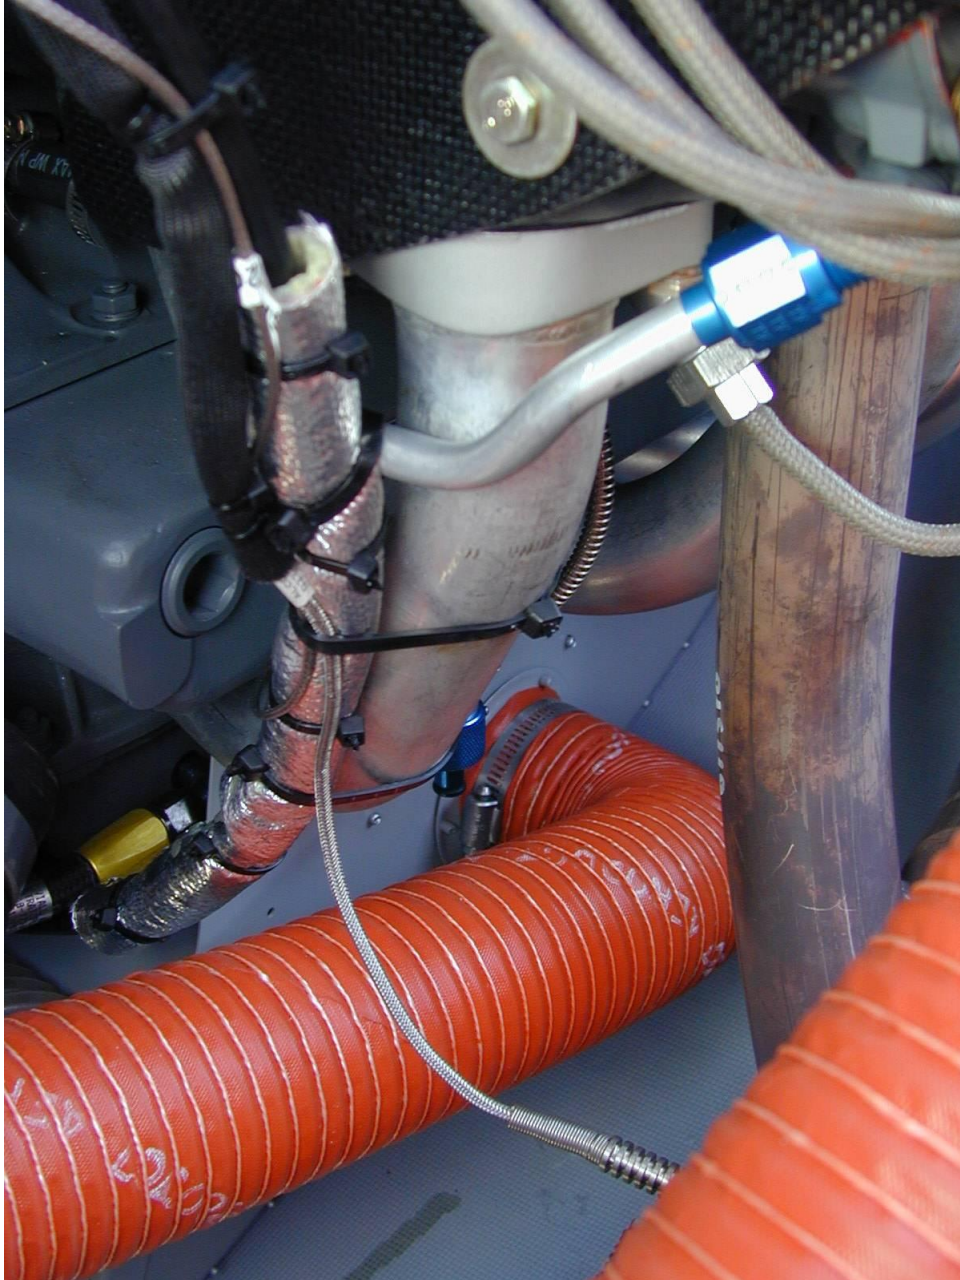

Figure 1
4. Slide Heat Shield Material back in place adjacent to engine cylinder No.5 inlet manifold. Wrap supplied cloth (Item 1 - Throttle Cable Heat Reflective Cloth) around new or existing Heat Shield Material and tie wrap in place as shown below in Figure 1. **Ensure cable is secured to the aft side of the inlet manifold tube.**